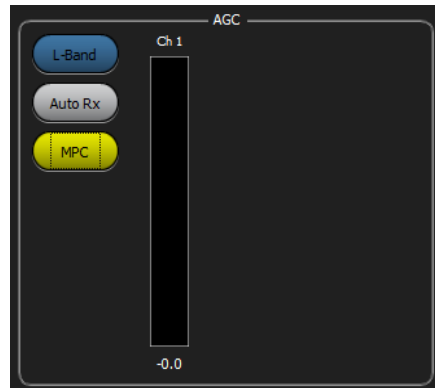

Figure 26: AGC Window
3. From the AGC window, select the MPC button. It will turn yellow, as shown in Figure 26, and the minimum elevation will be limited at the MPC Angle.